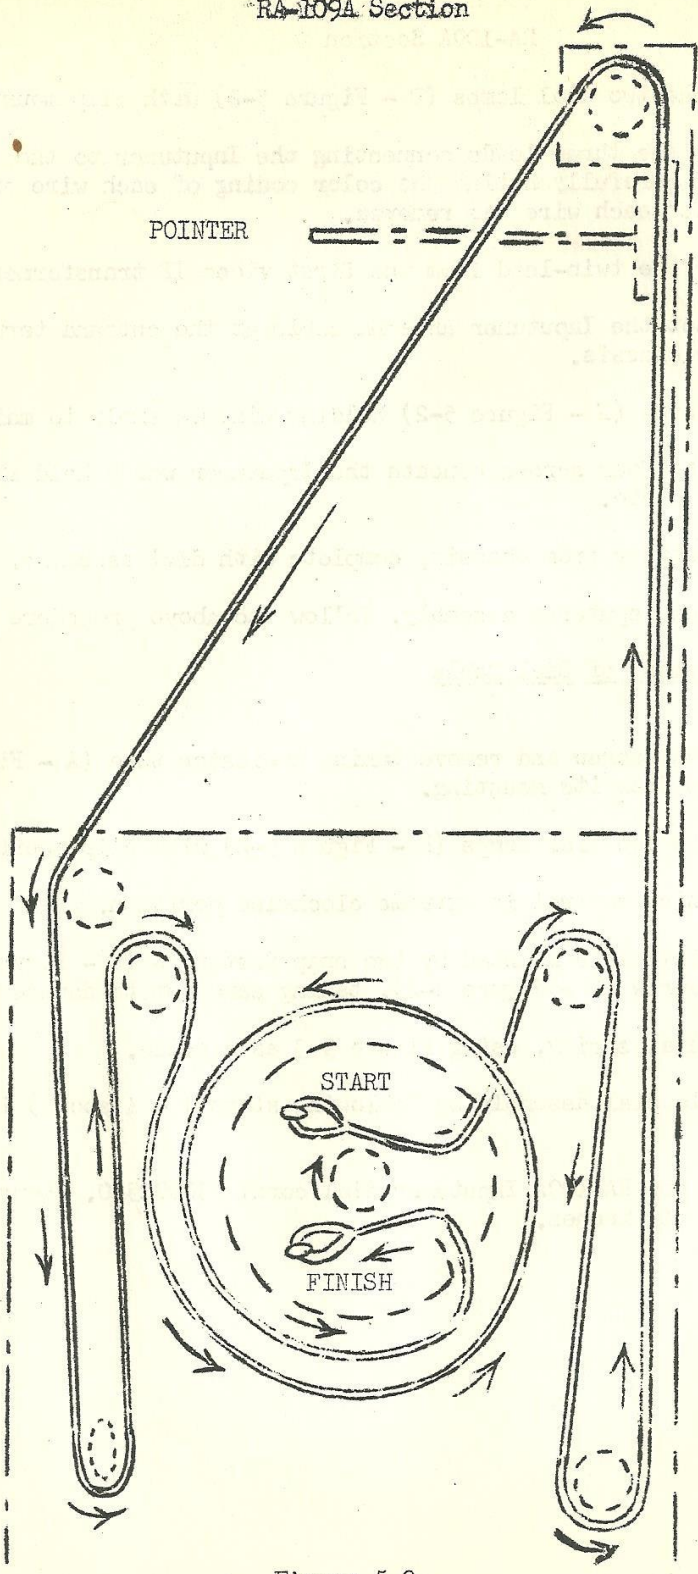

Figure 5-3
5. Install dial string, using Figure 5-3 as a guide.
Note: This transformer (T206), Part Number 20004941, is supplied only with chassis mounting bracket and bakelite base containing terminals and two 1X2 tube sockets. When returning defective transformer for replacement, it is necessary to first remove all other components, including resistors, capacitors, standoff tie posts, and leads (except 1X2 filament) from the assembly (Figures 5-3 and 5-4). It is advisable that the serviceman first have on hand a new transformer, so that parts may be removed from the old transformer singly and re-installed on the new assembly. This will aid in ensuring proper placement, assembly, and high voltage lead dress.